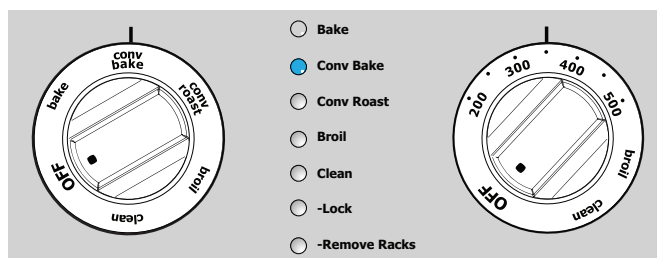

Figure 18: Convection bake selection
2. Turn the function dial to **conv bake**. The Conv Bake indicator light will flash (Figure 18).